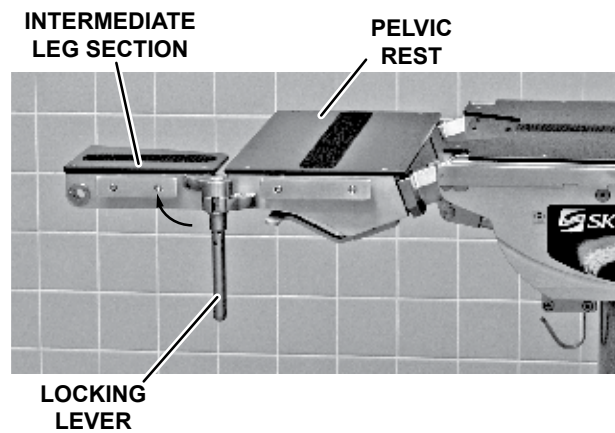

Figure 6. Position Intermediate Leg Section
- Push it into the collar and rotate it medial to the table and lock it securely by turning the locking lever (Figure 6).